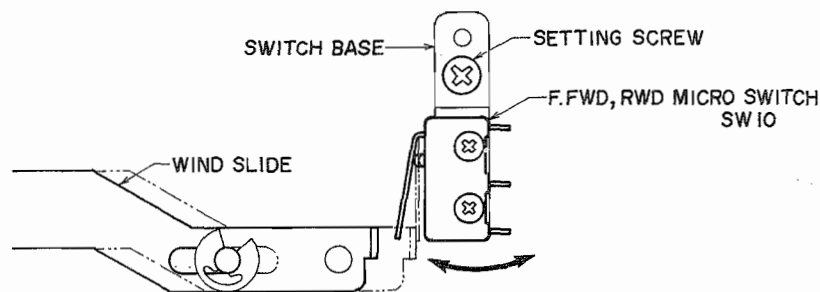

Fig. 19
9. F.FWD, RWD MICRO SWITCH SW10 POSITION ADJUSTMENT (See Fig. 19)
Loosen setting screw and move switch base in direction of arrow in Fig. 19 until when F.FWD or RWD mode is effected, the wind slide turns ON F.FWD, RWD Micro Switch perfectly and fix setting screw to maintain optimum condition.